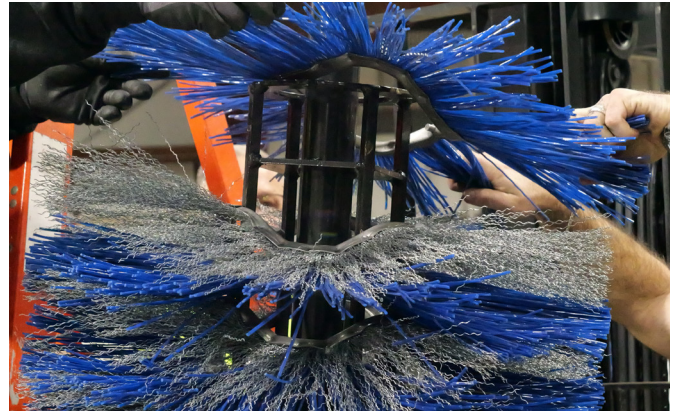

Figure 8
3. Install additional wafers with the convolutions (waves) opposing each other to expand the broom [Figure 8].